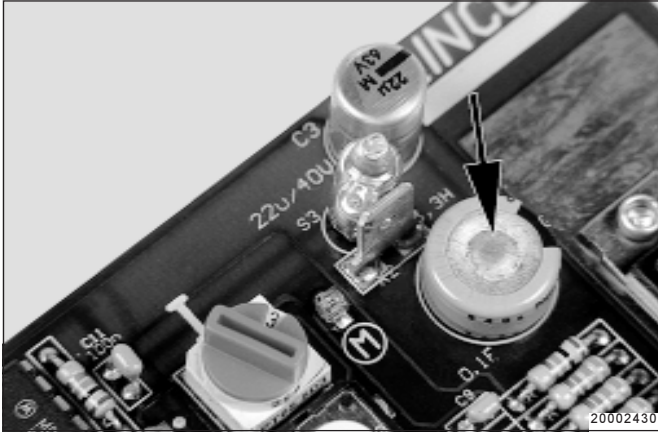

Fig. 4: Capacitor
- If no braking takes place, the printed circuit board gets the electric power from a capacitor (Fig. 4)